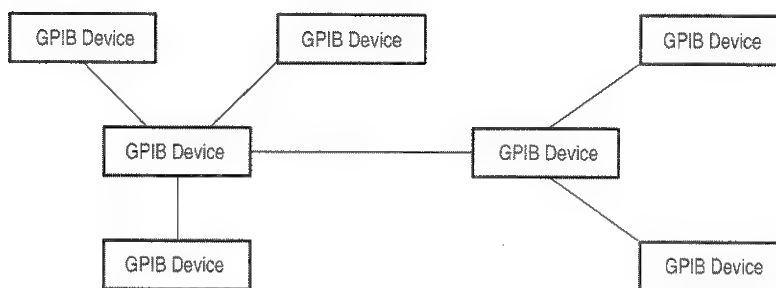

Figure 2–6: Typical GPIB Network Configurations
- Connect the devices on the network in a star or linear configuration as shown in Figure 2–6. Do not use loop or parallel configurations.